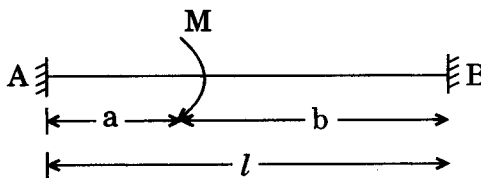

Figure 3
5. Find the fixed end moments for the fixed beam with applied moment at distance 'a' from the left end, as shown in Figure 3. 14